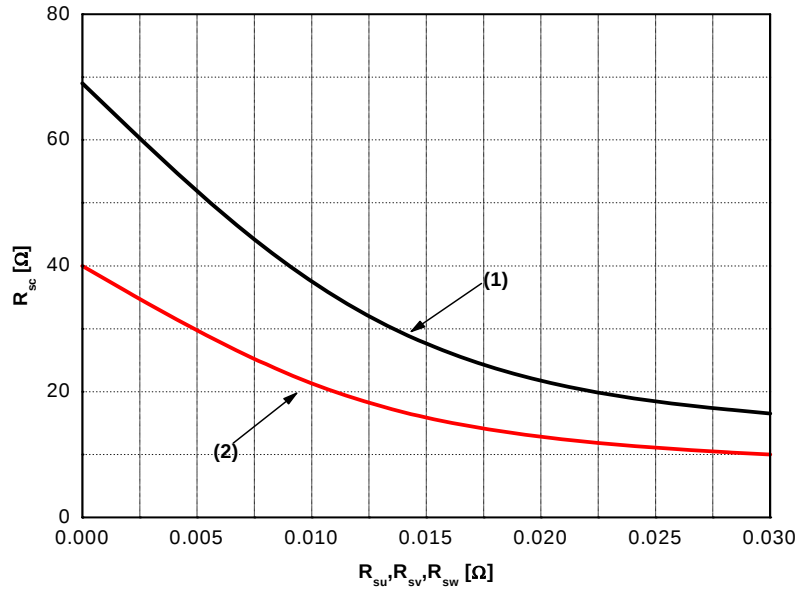

Figure 6. R_{SC} Variation by Change of Shunt Resistors (R_{SU}, R_{SV}, R_{SW}) for Short-Circuit Protection
- Short-circuit protection is functioning only at the low-sides. It would be recommended that the value of the external sensing resistor (R_{SC}) should be selected around 40 Ω in order to make the SC trip-level of about 75A, at the shunt resistors (R_{SU}, R_{SV}, R_{SW}) of 0 Ω. For the detailed information about the relationship between the external sensing resistor (R_{SC}) and the shunt resistors (R_{SU}, R_{SV}, R_{SW}), please see Figure 6.